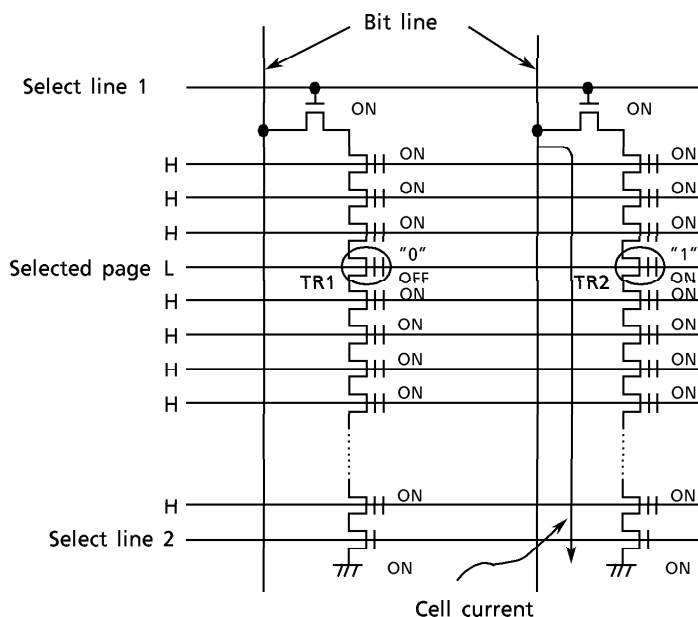

Figure 19. Read Device Physics
Figure 19 shows memory cell level details of the Read operation mechanism:
- (1) A high voltage is applied to Select lines 1 and 2 in the block which includes the selected page, so that the 16 NAND memory cells are connected to the Bit line and ground.
- (2) 0 volts is applied to the control gates of the selected page and a high level voltage is applied to the control gates of the unselected pages.
- (3) In Figure 19, transistor TR2 with data "1" turns on, transistor TR1 with data "0" turns off, and all other unselected transistors turn on.
- (4) The precharged bit line tied to TR2 is discharged through TR2 as cell current flows to ground, while the precharged bit line tied to TR1 remains high because current does not flow. The sense amplifiers tied to the bit lines thus sense the voltage levels as "1" and "0" respectively.